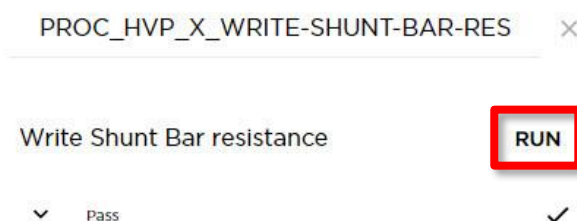

Figure 6
11. Click **RUN** (Figure 6), and wait for the routine to successfully complete.